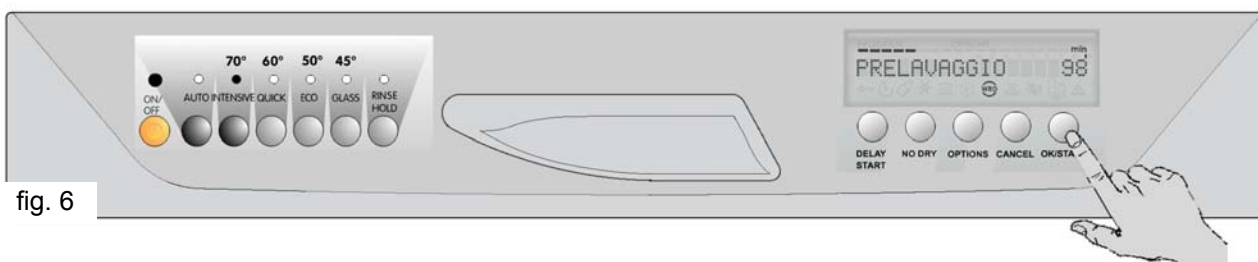

fig. 6
6. Press the “OK/START” button again to start the programme. See fig. 6.